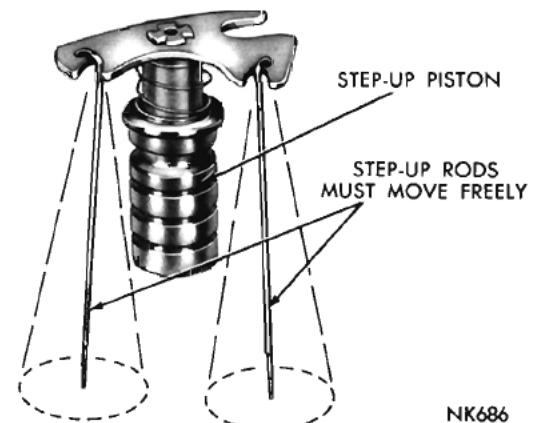

Fig. 9—Step-Up Piston and 2 Stage Rods
(7) Before installing the step-up piston, be sure the step-up rods are able to move freely each side of the vertical position, as shown in (Fig. 9). The step-up rods must be straight and smooth.
(8) Slide the step-up piston gasket down into position in the piston well, then install the step-up piston spring and step-up piston and rods. Carefully guide the step-up rods into the main metering jets. Refer to